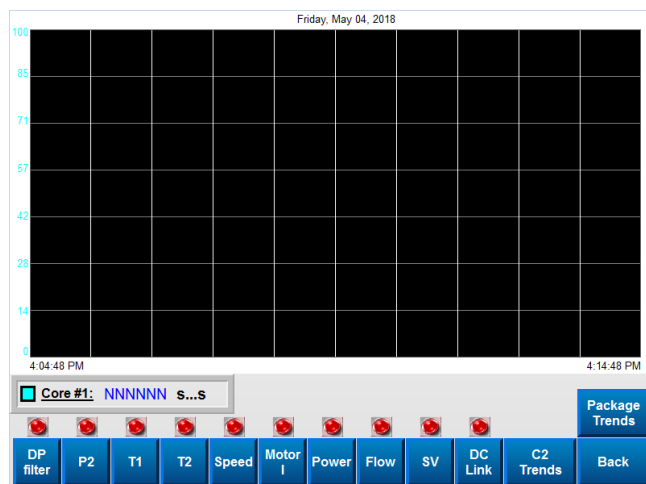

Fig. 84: Turbo core trending screen
2. Select the desired operating parameter for trend display using the buttons on the bottom (Fig. 84).